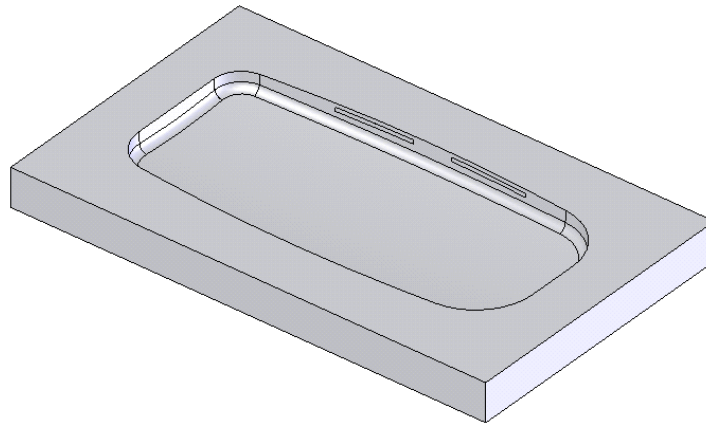

Figure 17-60 Cavity displayed after hiding the Cover
- Extract the Cavity, refer to Figure 17-60.
10. Add the remaining features to create the final Cavity Plate, see Figure 17-60.